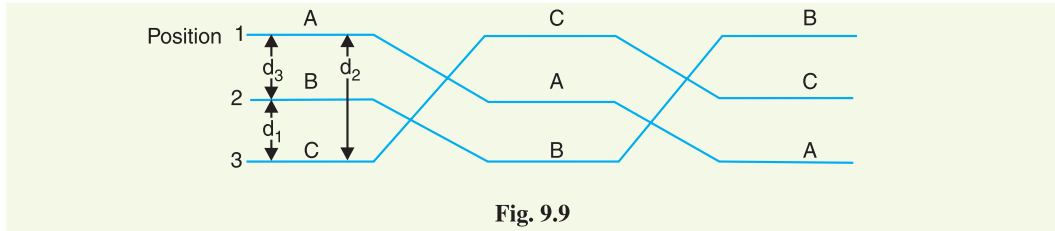

Fig. 9.9
**(ii) Unsymmetrical spacing.** When 3-phase line conductors are not equidistant from each other, the conductor spacing is said to be unsymmetrical. Under such conditions, the flux linkages and inductance of each phase are not the same. A different inductance in each phase results in unequal voltage drops in the three phases even if the currents in the conductors are balanced. Therefore, the voltage at the receiving end will not be the same for all phases. In order that voltage drops are equal in all conductors, we generally interchange the positions of the conductors at regular intervals along the line so that each conductor occupies the original position of every other conductor over an equal distance. Such an exchange of positions is known as *transposition*. Fig. 9.9 shows the
Fig. 9.9 shows a 3-phase transposed line having unsymmetrical spacing. Let us assume that each of the three sections is 1 m in length. Let us further assume balanced conditions *i.e.*,  $I_A + I_B + I_C = 0$ . Let the line currents be :